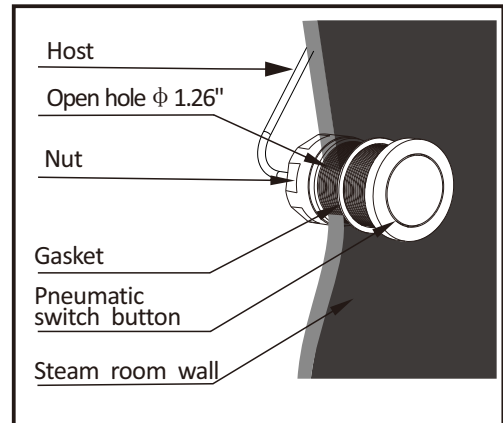

Figure 4
2. Install the pneumatic switch button, as shown in Figure 4.